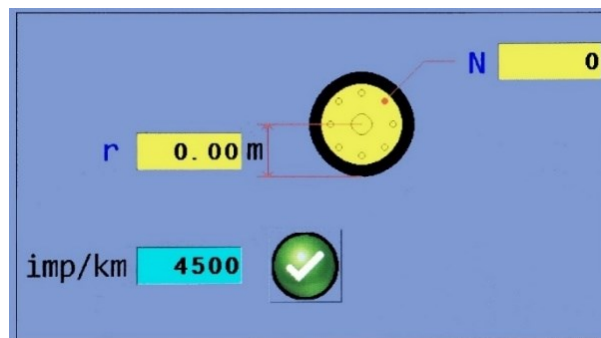

Figure 18
- Enter r (radius of the wheel) and N (number of marks) parameters in to the input sub window and AG-TRONIK will make calculation of SC, instead of you (Figure 18).